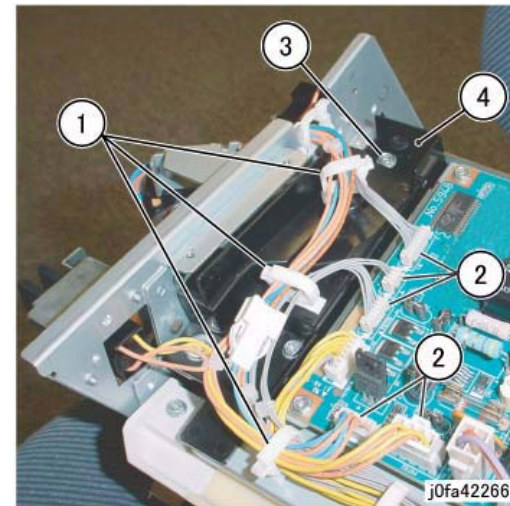

Figure 1 Removing the Connector Bracket (j0fa42266)
7. Remove the Connector Bracket. (Figure 1)